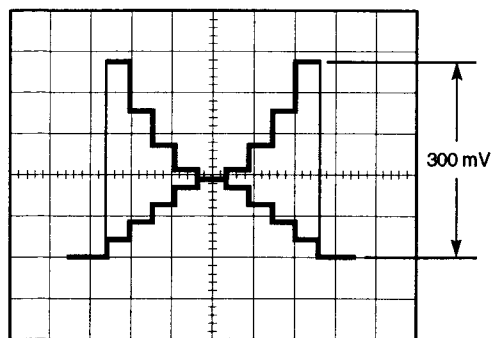

Fig. 5-1-26
- Set the Lens Iris so that the Video signal level becomes 300 mV as shown in Fig. 5-1-26.